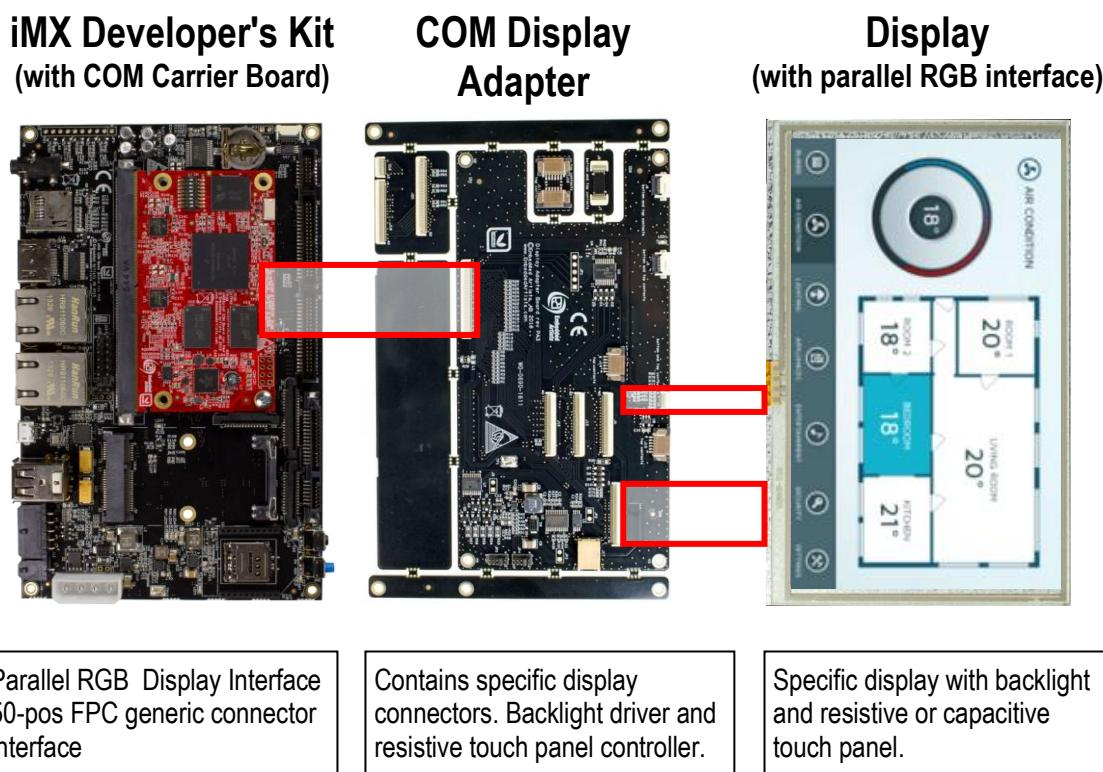

Figure 1 – COM Display Adapter Board with COM Carrier Board and Display
*Figure 1* illustrates how the *COM Display Adapter* connects between an *iMX Developer's Kit* and a display. The *COM Display Adapter* takes the generic 50-pos parallel RGB display interface connector from the *COM Carrier Board* and creates specific display connectors for a large number of displays. Backlight driver and a resistive touch panel controller is also included on the board.